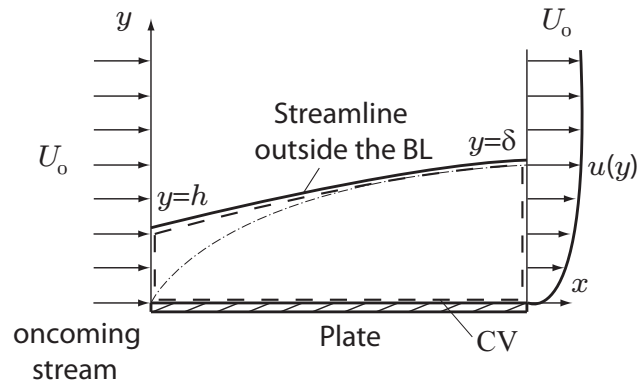

Figure 3: Drag force on a flat plate. Control volume (CV) is shown with a dashed line.
Problem 3 (35). Consider the plate of width b and length L parallel to the flow, as shown in figure 3. The oncoming flow is of uniform velocity $\mathbf{V} = U_0 \mathbf{i}$. The pressure is assumed uniform, so it has no net force on the plate. The no-slip condition at the wall brings the fluid there at a halt, and these slowly moving particles retard their neighbors above, so that at the end of the plate there is a significant retarded shear layer (or boundary layer) of thickness δ . The viscous stresses along the wall can sum to a finite drag force on the plate. Using the integral control volume analysis and the control volume in figure 3, find the drag force D in terms of the flow properties ρ , U_0 , δ , velocity profile $u(y)$ at $x = L$, and the plate dimensions.